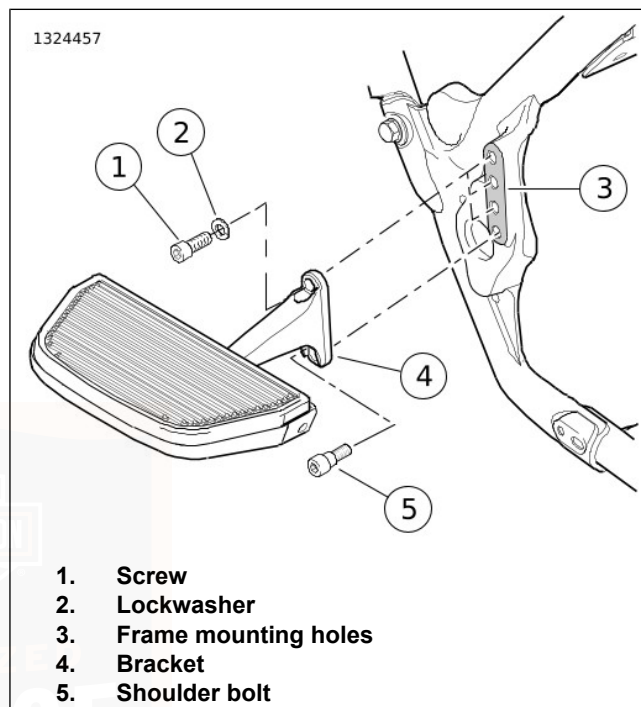
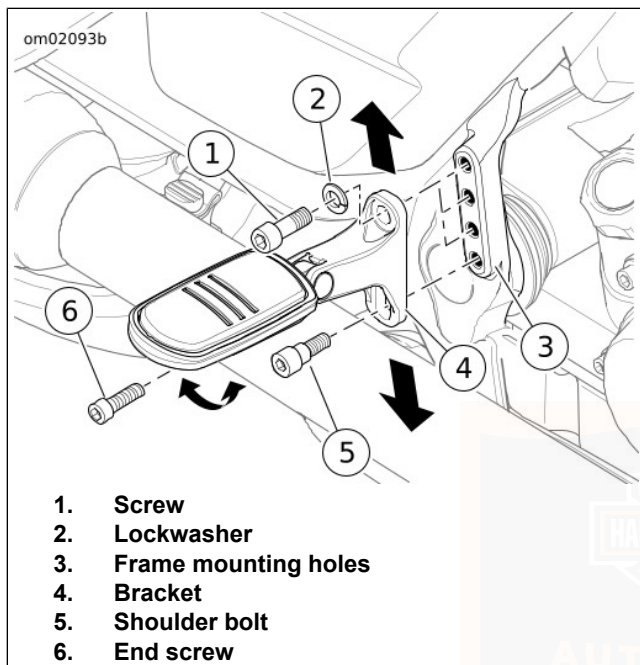

Figure 49. Passenger Footboard
Figure 50. Passenger Footrest (typical)
See Figure 49 and Figure 50.
1. See Figure 50. Remove the end screw (6).